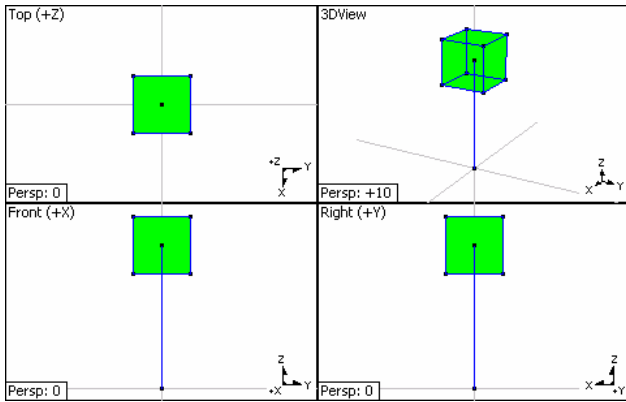

Figure 5. Line & Cube.
- Enter a **Global Offset** of **X=0, Y=0, Z=5**, and press **OK**. The Structure should now look like the one in Figure 5.